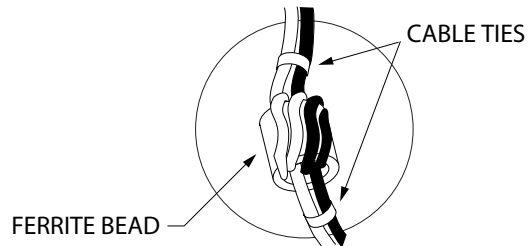

Figure 6-1. NAC ferrite bead wiring
1. When connecting the NAC wires to the terminal block, they need to pass through a ferrite bead to reduce radiated emissions. Route the wires to the supplied ferrite bead. Loop the wires twice through the bead and secure with two cable ties as shown in Figure 6-1. The cable ties are supplied in the panel's ship group.